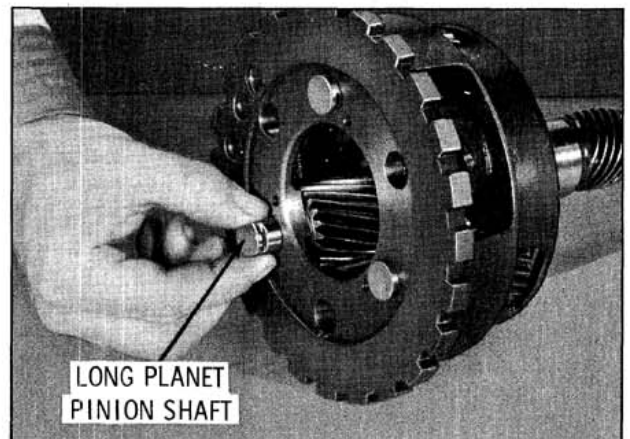

Fig. 6-469 Installing Long Pinion Gear Shaft
5. Position the long planet pinions with the thrust washers at each end in the planet carrier. Install the pinion shafts from the rear of the carrier. As the shaft is being pushed in, make certain that it picks up the thrust washer. Turn the pinion shaft so the groove faces the center of the planet carrier. (Fig. 6-469)